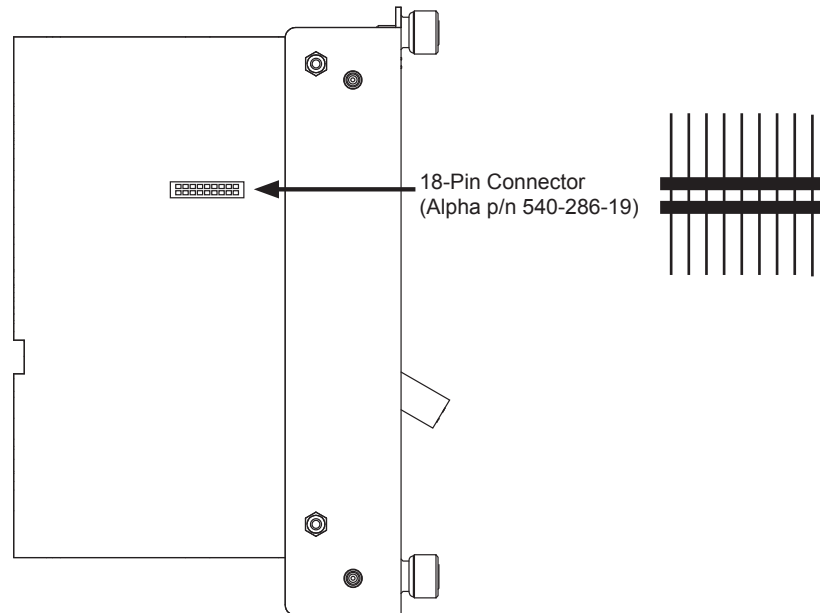

Fig. 2, 18-Pin Connector
7. Line up the 18-pin connector on the transponder (Fig. 2) with the 18-pin socket on the Inverter Module and connect the two units together.